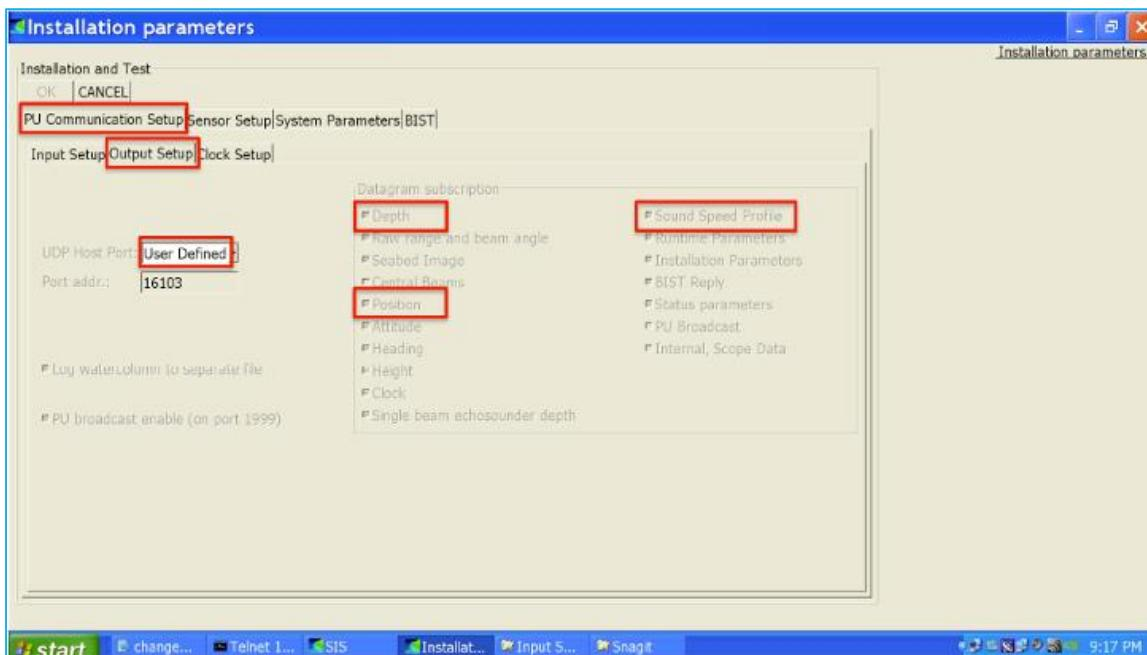

Figure 1 - SIS Installation parameters dialog, with key settings in red for method #1.
2. Access the *Installation Parameters* dialog (Figure 1) from the *View* menu by choosing *Tear off* and then *Installation Parameters*